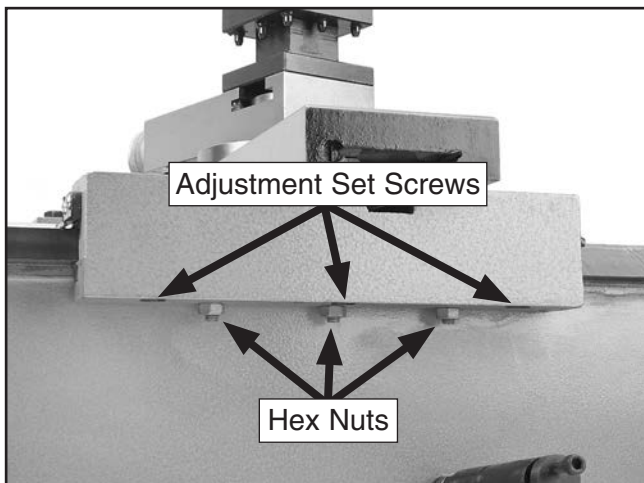

Figure 95. Gib adjustment set screws and hex nuts (shown from rear of saddle).
2. Loosen the three hex nuts one full turn (see **Figure 95**).